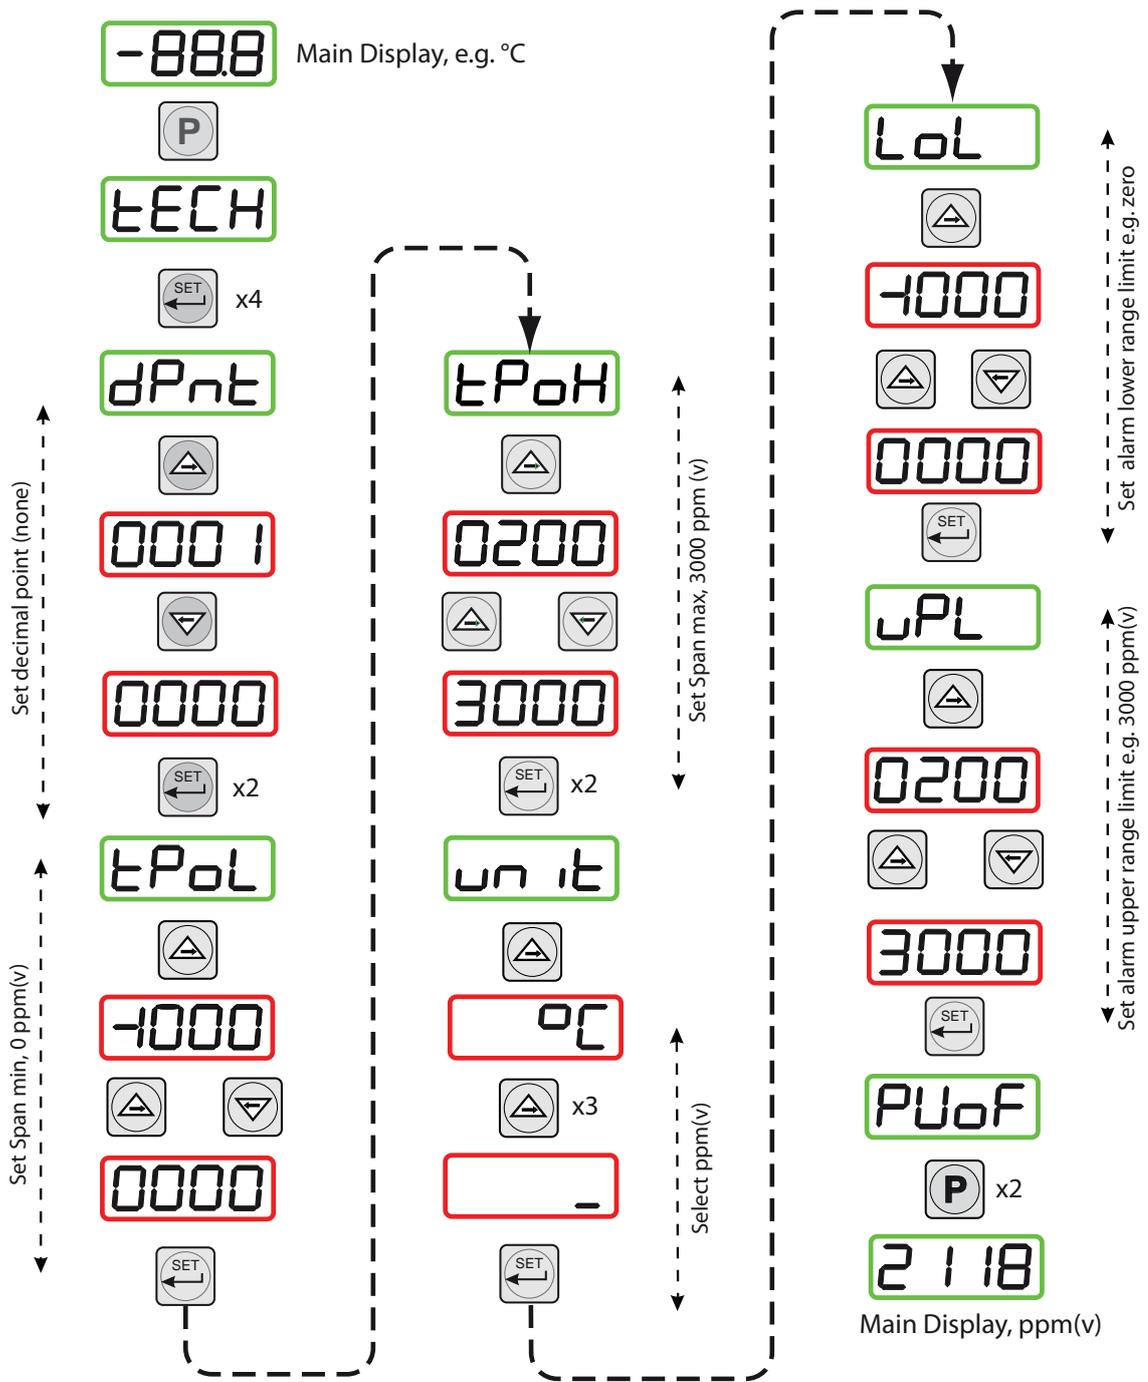

Figure 13 Set-up Monitor (to read ppmv)
*Figure 13* shows the operational key sequence.